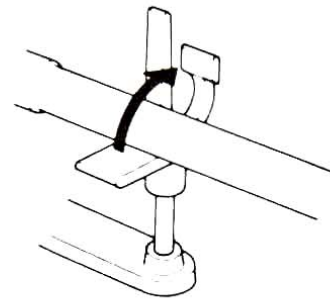

Fig. 3 Releasing the tonearm
- 4) Release the tonearm from the tonearm rest (Fig. 3).